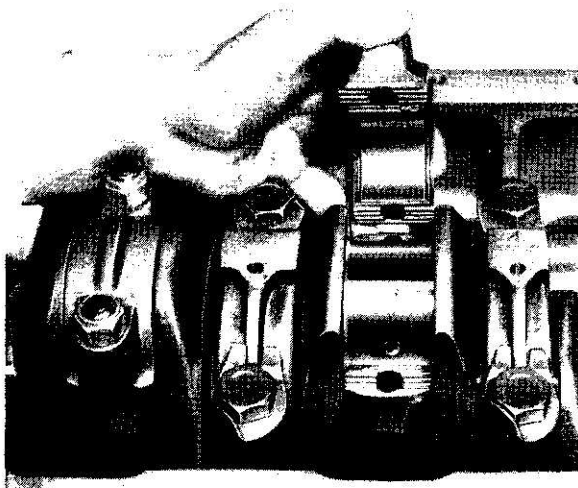

Fig. 1
4. Remove the big end caps, bearing shells and bolts (Fig. 1).